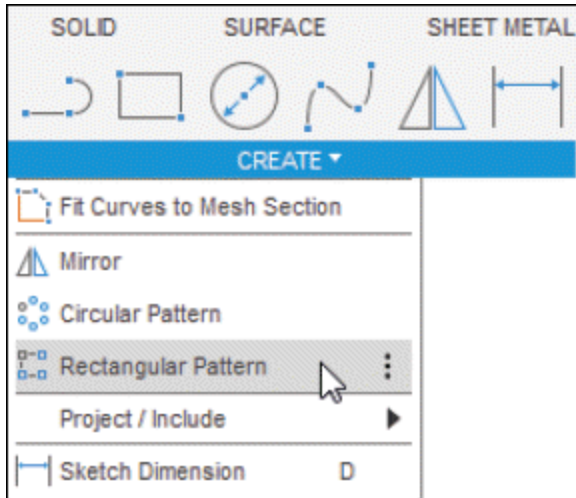
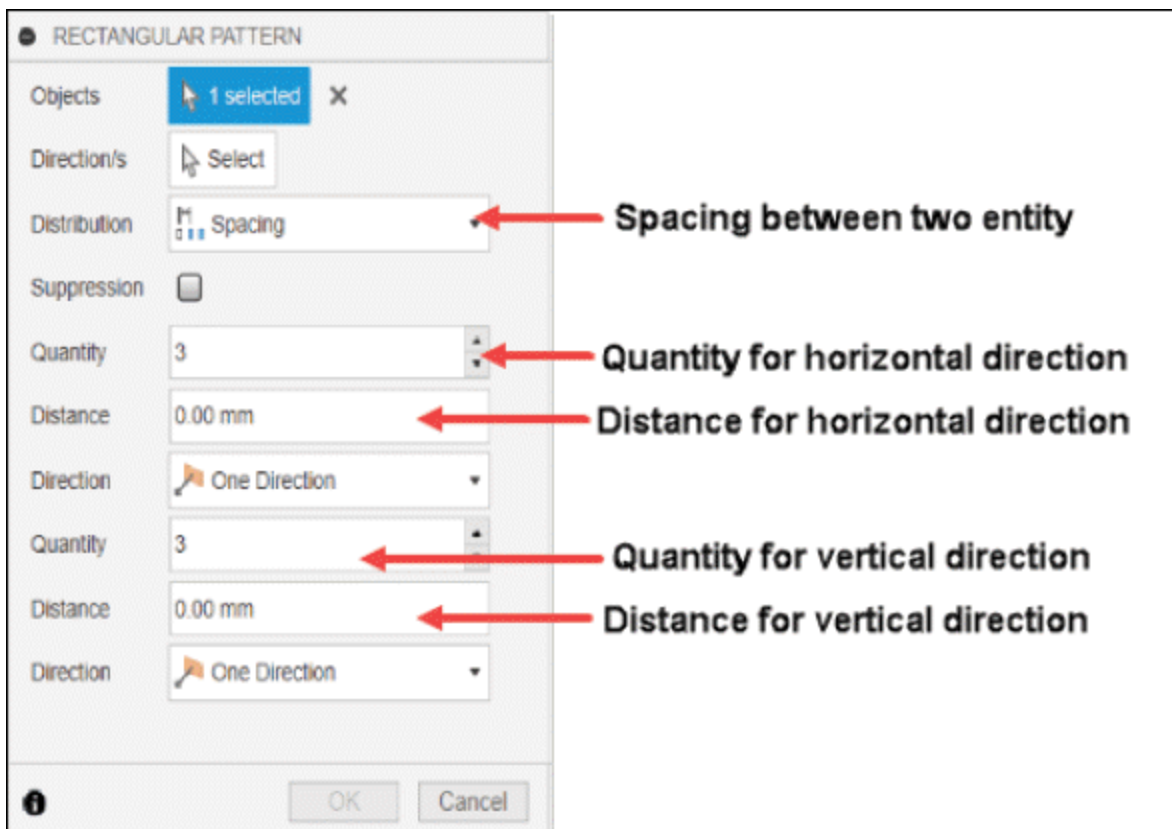

Figure-59. Rectangular Pattern tool
Figure-60. RECTANGULAR PATTERN dialog box
- Click on the **Rectangular Pattern** tool of **CREATE** drop-down from **Toolbar**; refer to Figure-59. A **RECTANGULAR PATTERN** dialog box will be displayed; refer to Figure-60.